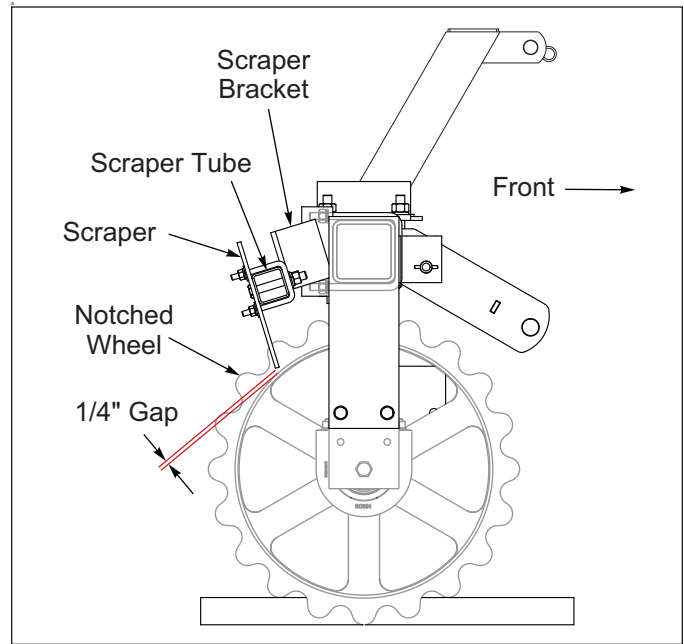

Figure 2-5: Scraper Kit Detail
2. Attach Scraper Brackets to the Scraper Tube with 1/2-13 x 3-1/2 Bolts, Flat Washers, Lock Washers, and Nuts. **See Figures 2-5 and 2-6.**
4. Center the Scrapers between the Notched Wheels. Position the Scrapers so that there is a 1/4" gap between the Scraper and the Notched Wheel. **See Figure 2-5.** Secure with 3/8-16 x 2-7/16 U-Bolts, Flat Washers, Lock Washers, and Nuts.